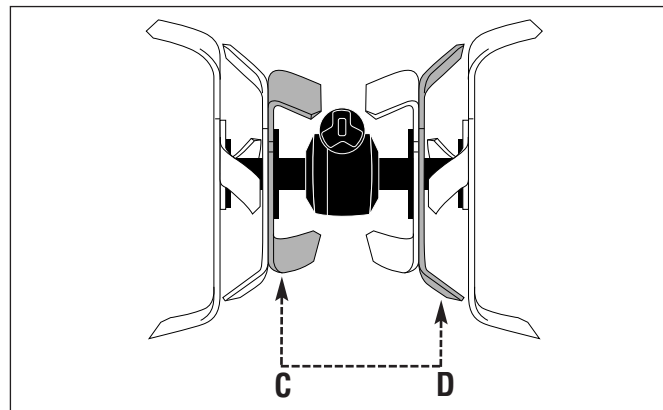

Figure 20: Exchanging position of tines at "C" and "D."
Step 2: Move the two *right-curved* tines from position "C" on the left inner holder to the "D" position on the right inner holder. Move the two right-curved tines which were at the "D" position to "C." See Figure 20.